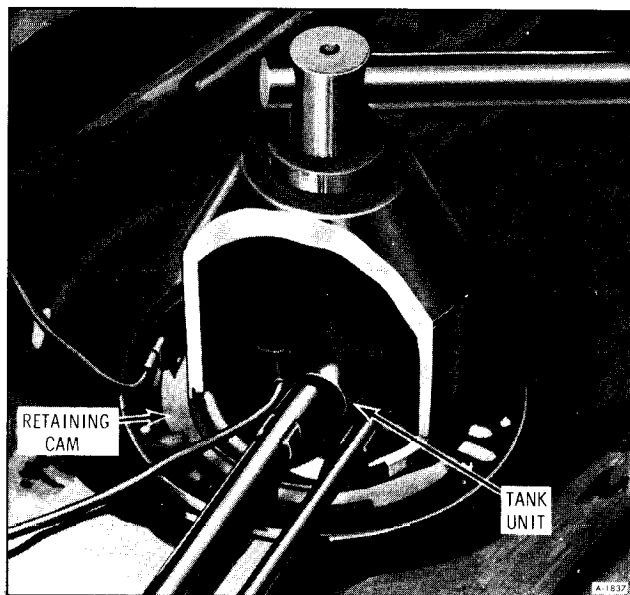

Figure 6-Removing Fuel Tank Gauge Unit
5. Using Tool J-24187 as illustrated in Figure 6. Remove fuel tank gauge unit.
2. Remove fuel gauge retaining cam, using Tool J-24187 (figure 6).